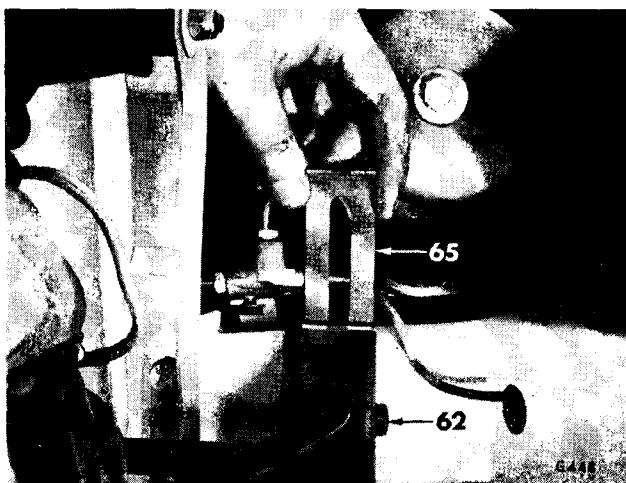

Fig. 14. Suspension shims
2. Remove the damper bolt (59) and trunnion bolt (58).
3. Remove two nuts (66), note quantity and position of shims.
5. Remove two fulcrum bolts (62) (Fig. 14).
7. Renew the rubber fulcrum bushes (61) if necessary.
Reverse the above procedure, taking care to replace the shims (65) (Fig. 14) in their original positions.